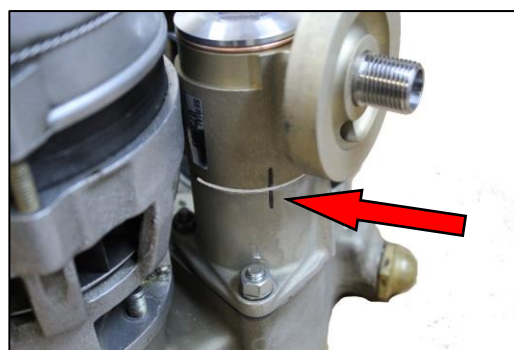

Figure 8
10. Make a match-mark on the sleeve and oil screen housing, see Figure 8. Remove the filter, taking care not to move the adapter sleeve. Check the match-mark. If the marks are not aligned, move the sleeve so that the marks are aligned. If necessary, tighten the spool slightly, just enough to hold the sleeve in place with the match-marks aligned.